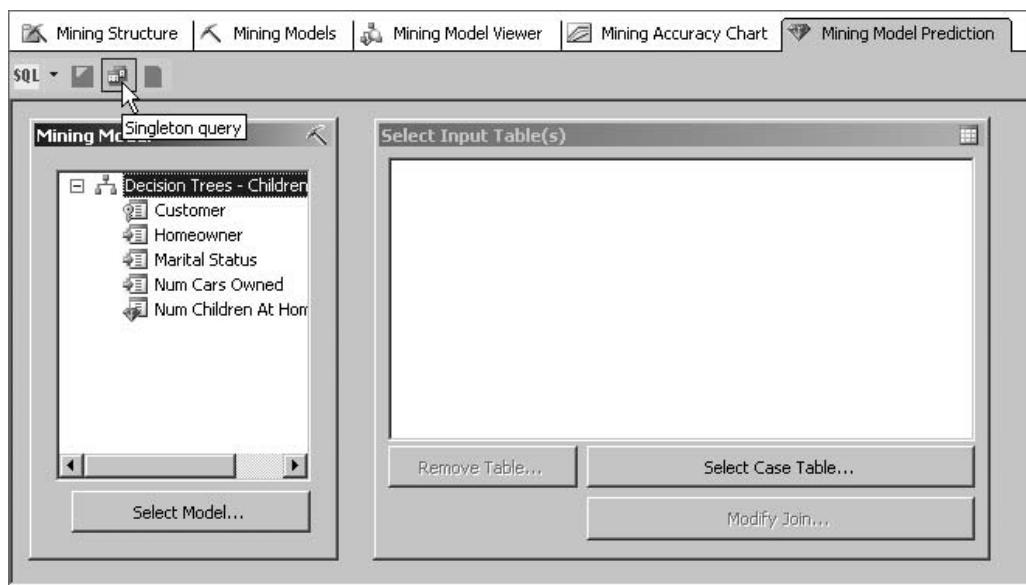

Figure 15-11 The Singleton Query toolbar button
5. Click the Singleton Query button on the Mining Model Prediction tab toolbar. This is shown in Figure 15-11.